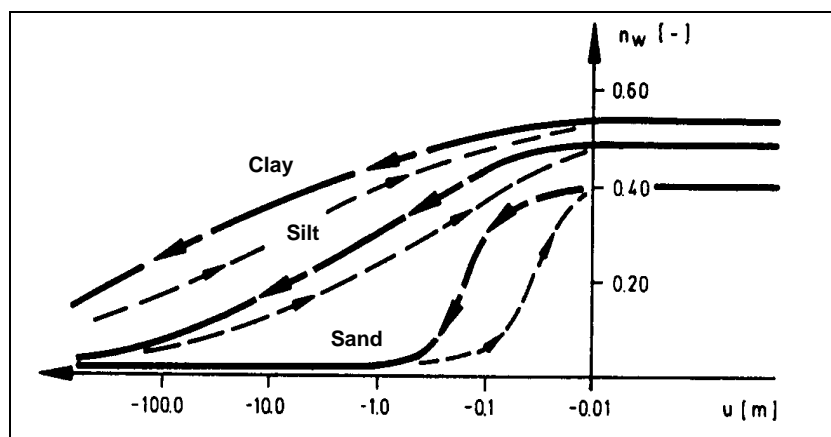

Figure 1 Function $n_w = f(u)$
- Using the **"Time BC/Soil properties"** menu item, you can query the soil properties which you defined in **GGU-SS-FLOW3D**. This list is supplemented by information on the specific storage coefficient. According to soil type, you can define your specific soil curves, using model points by clicking on the **"nw = f(u)"** field (*cf.* Figure 1 further below). The soil permeability can be altered as a function of the time using the **"k = f(t) [0]"** button.
The value for n_w can also be entered here. The value of n_w gives the volume of water relative to the total volume. It is a dimensionless variable and is a function of the porewater pressure u . Typical function curves for various soil types are shown in Figure 1: